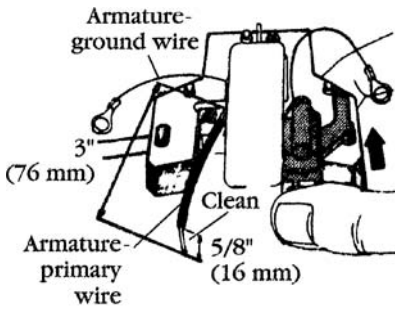

FIG. 3-20. *The module installs on the right-hand leg as viewed from the underside of the armature. Briggs & Stratton Corp.*
3. Remove the two cap screws that secure the ignition coil and, on some applications, the governor vane bracket, to the engine. You might have to cut part of the bracket away for module clearance (Fig. 3-20).